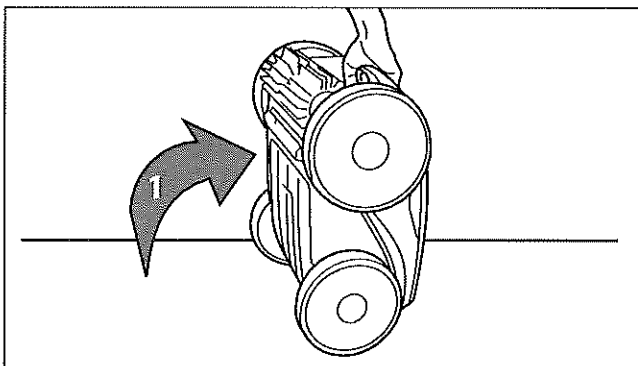

Figure 30. Cleaner in Upright Position
1. Lift the cleaner to a vertical position so that the handle is up (Figure 30).